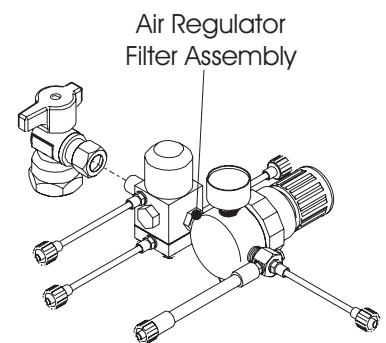

Figure 2.
- The supplied Air Regulator Filter assembly and Water Regulator Filter assembly are *PRE-ADJUSTED*. Insert the nipple of each assembly into the compression fitting of it's designated Manual Shut-off Valve ("A" for air) ("W" for water), and tighten. (See Figure 2.)